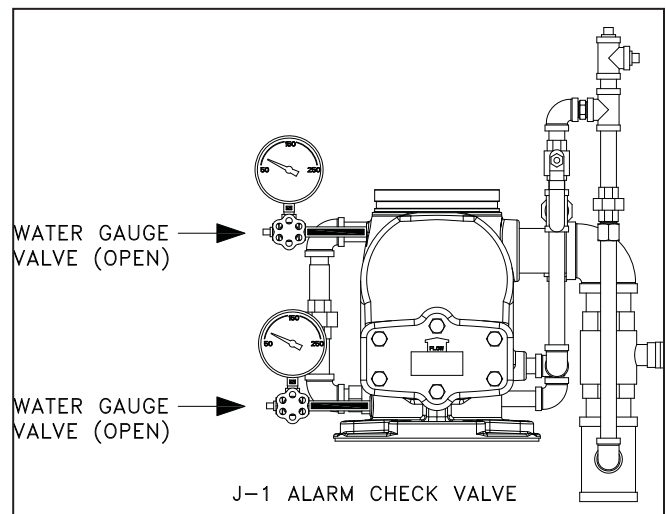

Figure 32
3. Water gauge valves open (Figure 32).